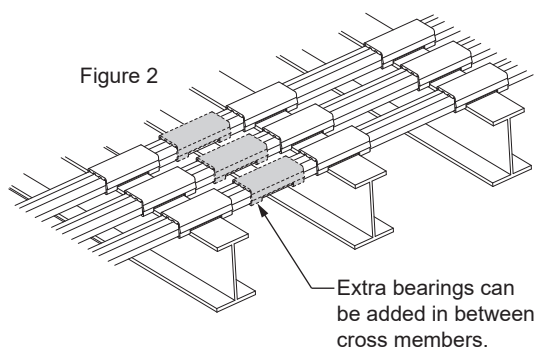

Figure 2
2. FlicOn bearings must be installed at the intersection of every sub-deck and cross member (fig. 2). DO NOT install FlicOn bearings in the zone where the end of the slats cycle.